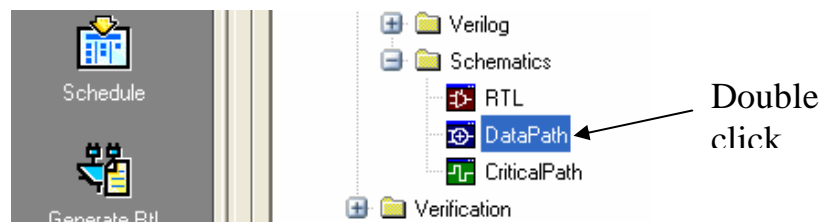

Figure 8 Data Path Schematic Icon
- ✓ Right-click on the “+” operator highlighted in light blue and select “Trace to source” (Figures 8, 9, and 10)